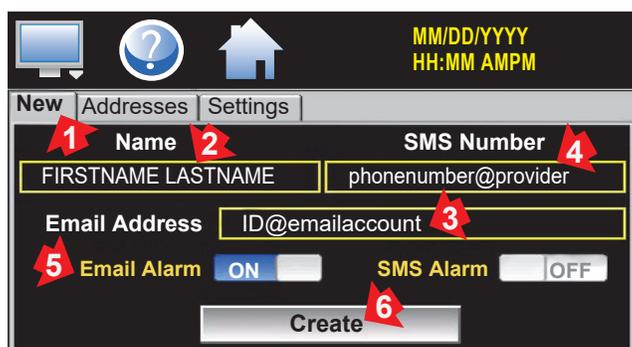

Figure 44. Add New User
2. Add an address, touch: (1)NEW tab (2)Name (3)Email Address (4)SMS number - max 50 characters (5)On/Off - to specify Email or SMS Alarm. Touch (6)Create (Figure 44).